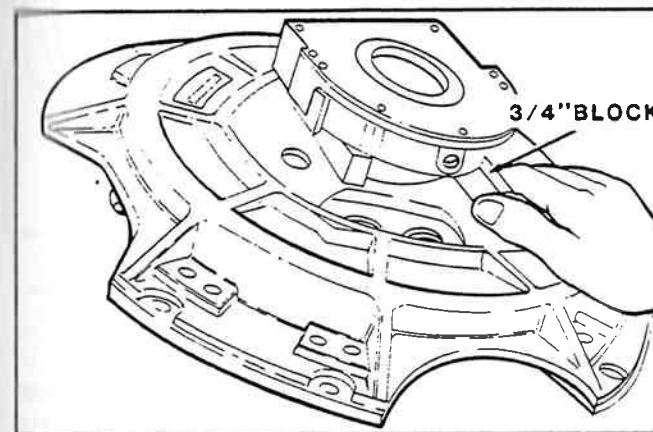

Figure 5-10. Remove Wooden Blocks.
11. Raise arbor. Tilt assembly and remove wooden blocks (figure 5-10).